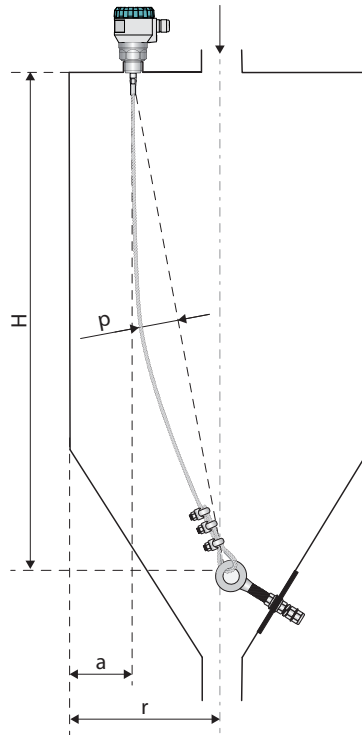

Fig. 22: Recommended installation of the level meter with anchoring on the opposite side of the silo
- For applications with bulk solids** it is appropriate to anchor the rope electrodes at the opposite sides of the tank (silo) so that the rope is sagging, see Fig. 22. Minimum recommended sag is see page 9. This installation increases the resistance of the rope to tension load.
opposite side of the silo (Fig. 22)	any